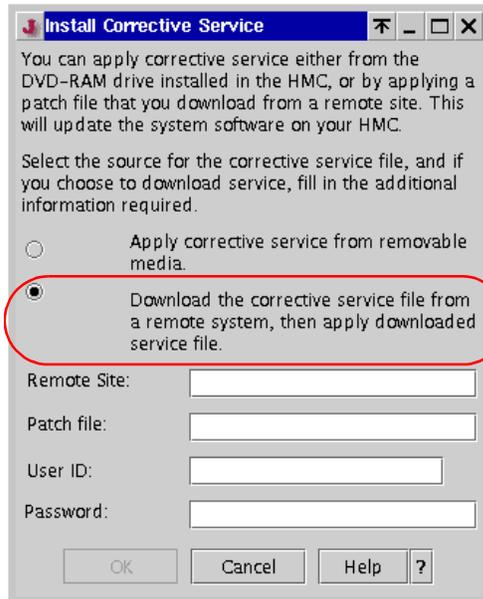

Figure 6-7 Install Corrective Service window
2. Select the Install Corrective Services task in the content area. This opens the Install Corrective Services window shown in Figure 6-7 on page 115.